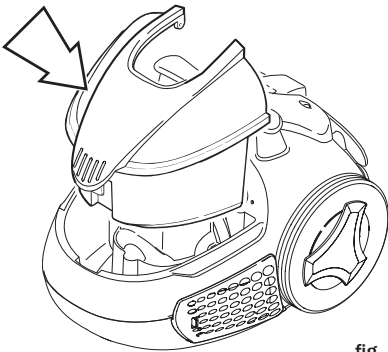

fig. 27
- Remove the dust collecting tank from its seat on the machine (fig. 27) and lift up the protection cover.